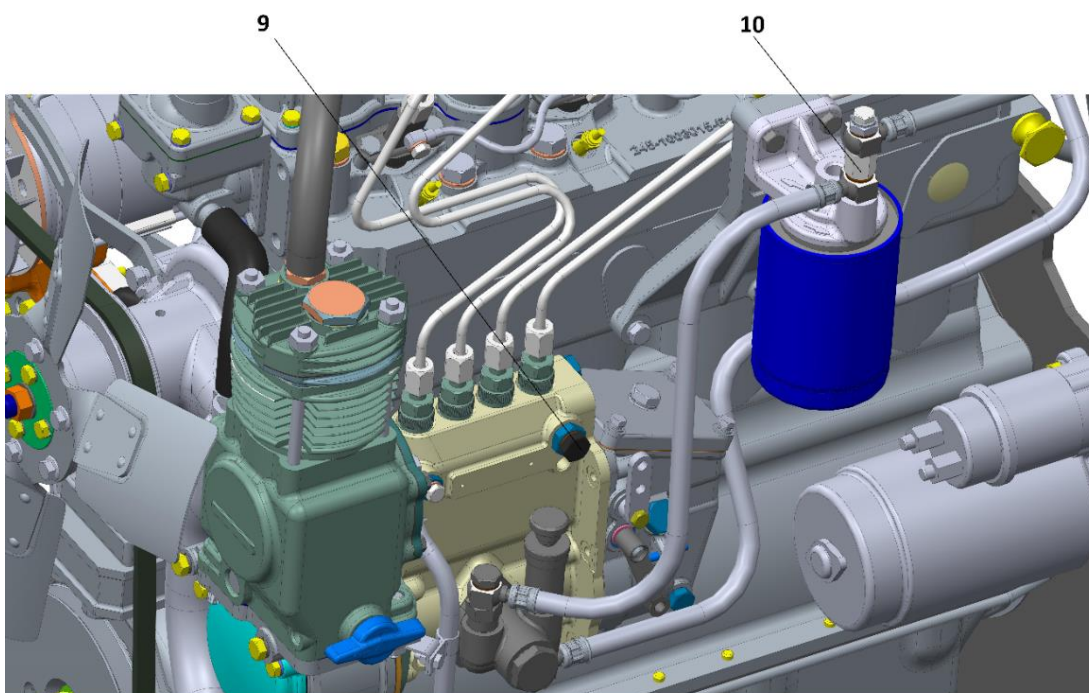

fig. 4.6. Moving the return line,
- 3) Using the adapter fitting **10** connect the previously removed relief valve to the fuel line inlet into the fine filter (fig. 4.6).